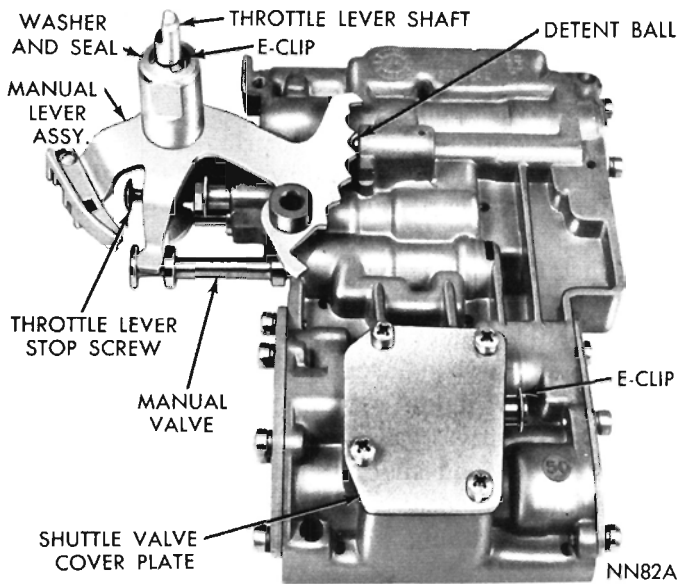

Fig. 53—Valve Body Controls (Assembled View)
(8) Invert valve body and lay it on a clean cloth or paper. Remove E-clip and washer from throttle lever shaft (Fig. 53). Remove any burrs from shaft, then while holding manual lever detent ball and spring in their bore with Tool C-3765 or similar tool, slide manual lever off the throttle shaft. Remove the detent ball and spring.
- (9) Remove manual valve, carefully slide it out of valve body with a rotating motion.
- (10) Remove throttle lever and shaft from the valve body.
- (11) Remove shuttle valve cover plate (Fig. 53). Remove E-clip from exposed end of the shuttle valve.